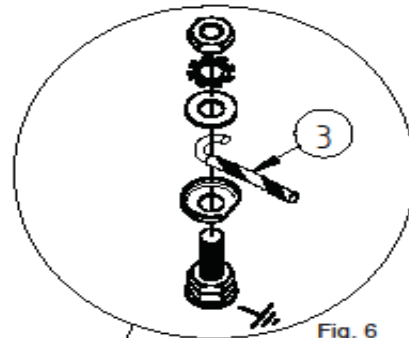

Fig. 6
4. Consolidate the stranded conductor ends by twisting and shape the earth conductor as shown in Fig. 6 (item 3).
5. Remove earth terminal post clamping components and assemble as shown in Fig. 6 ensuring shaped conductor is orientated as shown and all strands of the conductor are clamped between the washers.